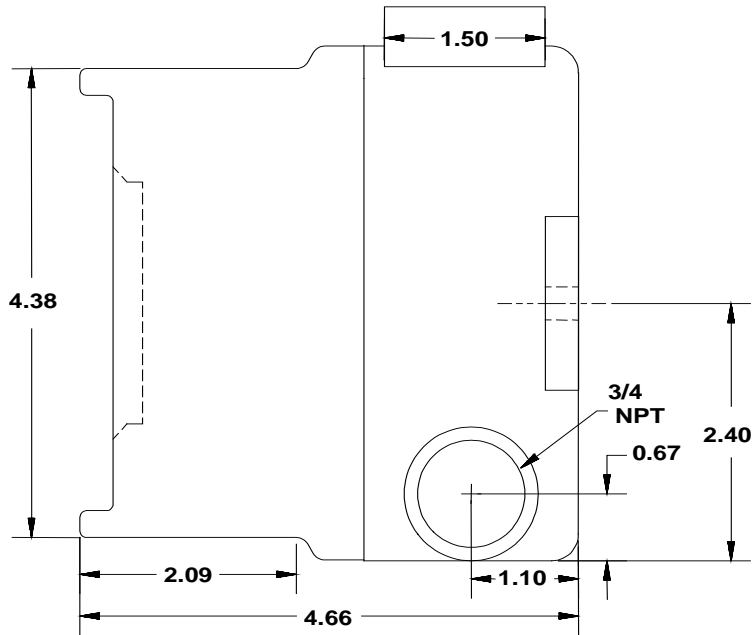

Figure 6: Model SS4-AUV/-AUV2 Detector Enclosure - Side View
- a. Insert the cables into the metal enclosure base through one of the conduit openings. Refer to Figure 6
- a. Insert relay cables into the Detector enclosure base through one of the conduit openings. Refer to Figure 6.